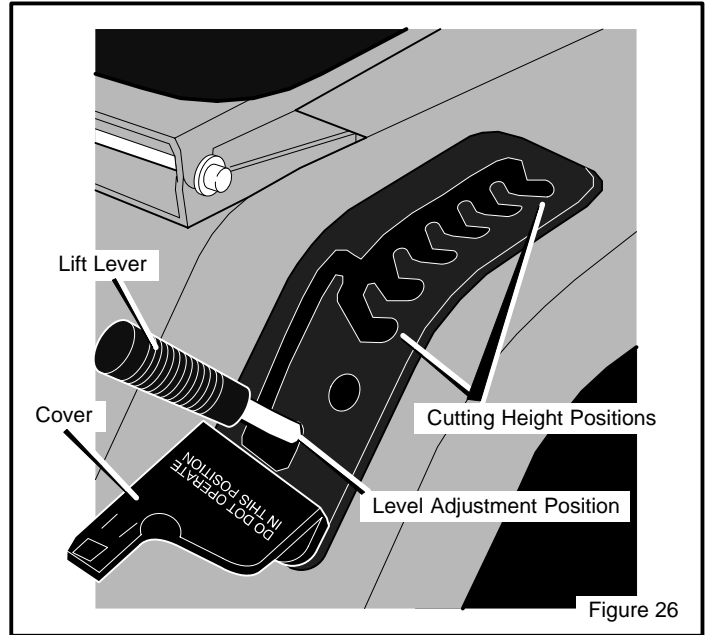

Figure 26
5. Move the lift lever to the LEVEL ADJUSTMENT position (Figure 26).